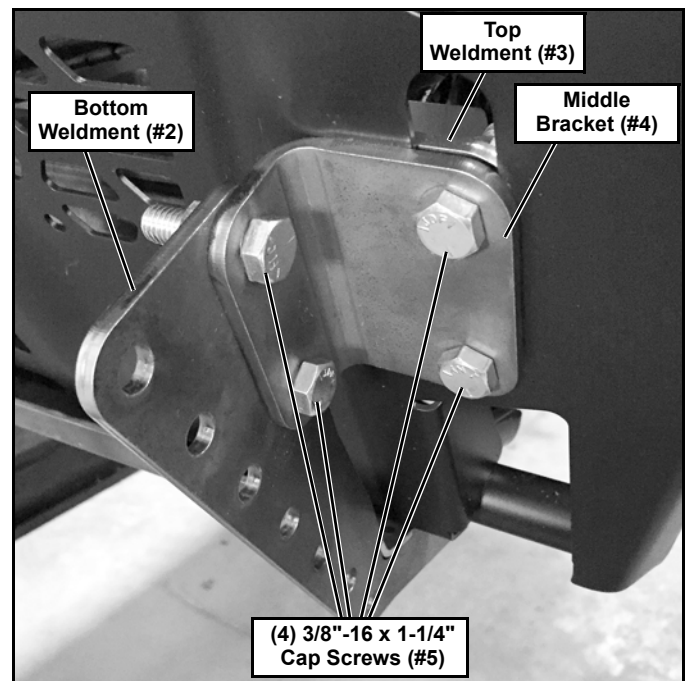

Figure 4
6. On the driver's side, align the holes in the long leg of the Middle Bracket (#4) with the front holes of the Top Weldment (#3). The holes on the short leg align with the holes on the side of the Bottom Weldment (#2) (See Figure 4).
- Insert (4) 3/8" -16 x 1-1/4" Cap Screws (#5) into the Middle Bracket (#4) and through the Bottom and Top Weldments (#2 & #3). Secure with (4) 3/8"-16 Locknuts (#8) (See Figure 4).